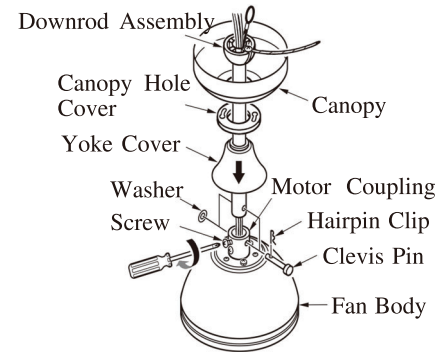

FIG.2
2. Insert the downrod through the center opening in the canopy, canopy hole cover, yoke cover and route the motor leads through the hanger ball/downrod assembly. Align the clevis pin holes in the downrod with the holes in the motor coupling. The clevis pin must pass through the holes in the motor coupling and the downrod. Place the washer onto the clevis pin and install the hairpin clip making sure to push straight leg of the hairpin clip through the hole near hanger ball to make sure the clevis pin is properly installed (See fig.2)